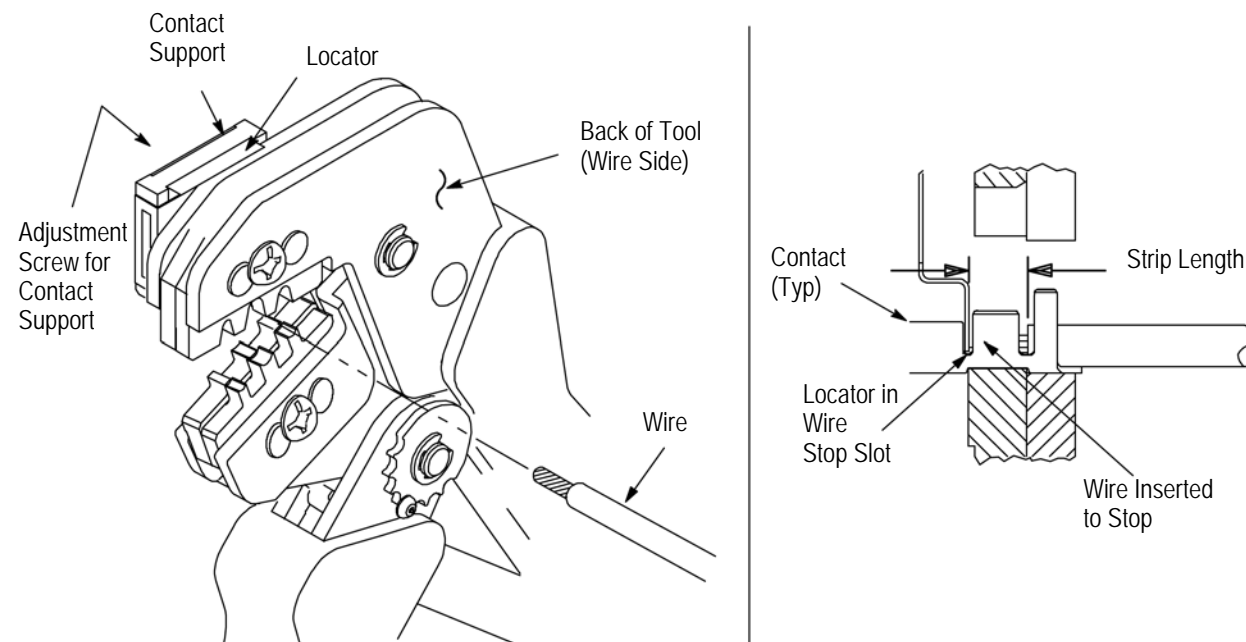

Figure 3
4. CONTACT SUPPORT ADJUSTMENT (Figure 3)
Refer to the table in Figure 1 and select wire of the specified size and insulation diameter. Strip the wire to the length indicated in Figure 1, taking care not to nick or cut wire strands. Select an applicable contact and identify the appropriate crimp section according to the wire size markings on the tool. Refer to Figure 3 and proceed as follows:
3. Position the contact so that the mating end of the contact is on the locator side of the tool, and so that the open "U" of the wire and insulation barrels must face the top of the tool. Place the contact up into the nest so that the movable locator drops into the slot in the contact. Refer to Figure 3. Butt the front end of the wire barrel against the movable locator.
5. Insert stripped wire into contact insulation and wire barrels until it is butted against the wire stop, as shown in Figure 3.
The crimped contact may stick in the crimping area, but the contact can be easily removed by pushing downward on the top of the locator (see Figure 3).